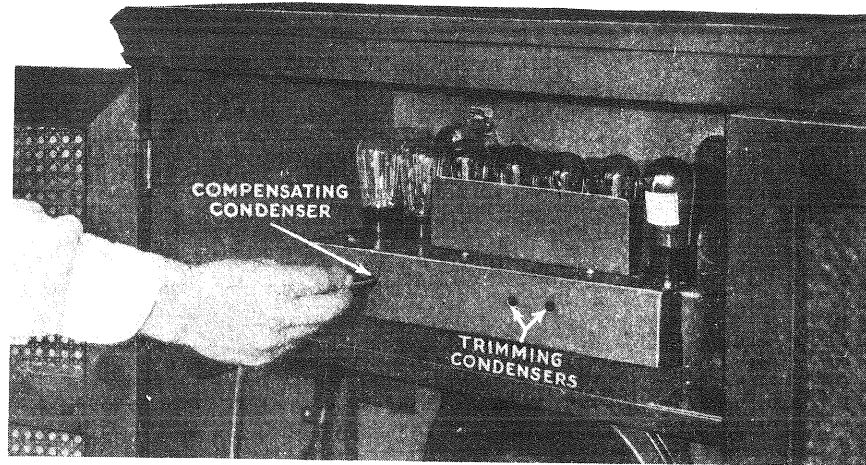

Figure 8—Method of adjusting trimming and compensating condensers
- (c) Now adjust the oscillator trimming condenser on the right, facing rear of Radiola (Figure 8) with the long, thin, non-metallic screwdriver until a maximum deflection is obtained in the milliammeter.
- (c) Locate the position of the compensating condenser (See Figure 8).
- (d) Adjust trimming condenser on right (facing rear of Radiola, Figure 8) for a maximum reading.